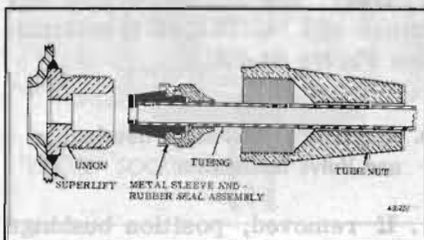

Figure 40-27—Fitting Nut and Seal
e. Flexible air lines are used throughout the system. The line is 1/8" diameter tubing. Each fitting consists of a rubber seal, metal sleeve and nut. See Figure 40-27. These parts are intended specifically for the 1/8" diameter line and must be used to affect a reliable seal.
1. Preassemble metal sleeve and rubber seal. See Figure 40-27.